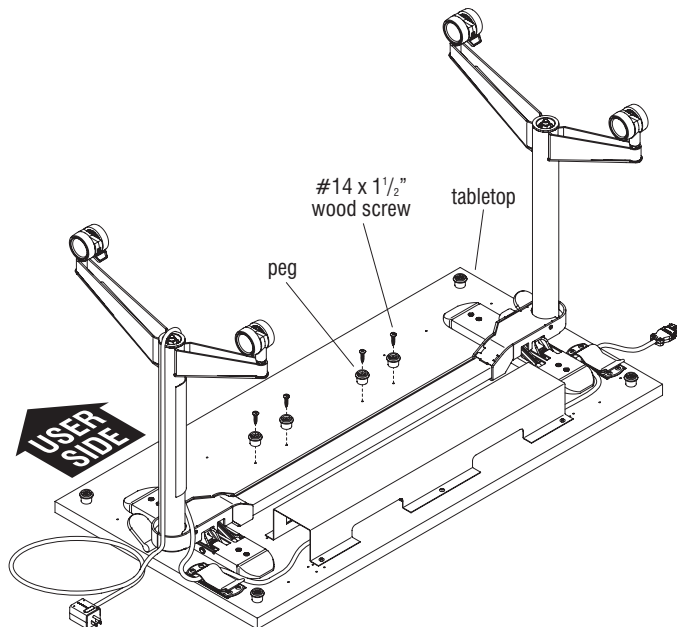

Figure 2
2. Locate the four pre-drilled peg mounting locations for storage located at the front, user side of the tabletop. Install a peg to each location using a #14 x 1 1/2" wood screw at each peg mounting location (Figure 2).